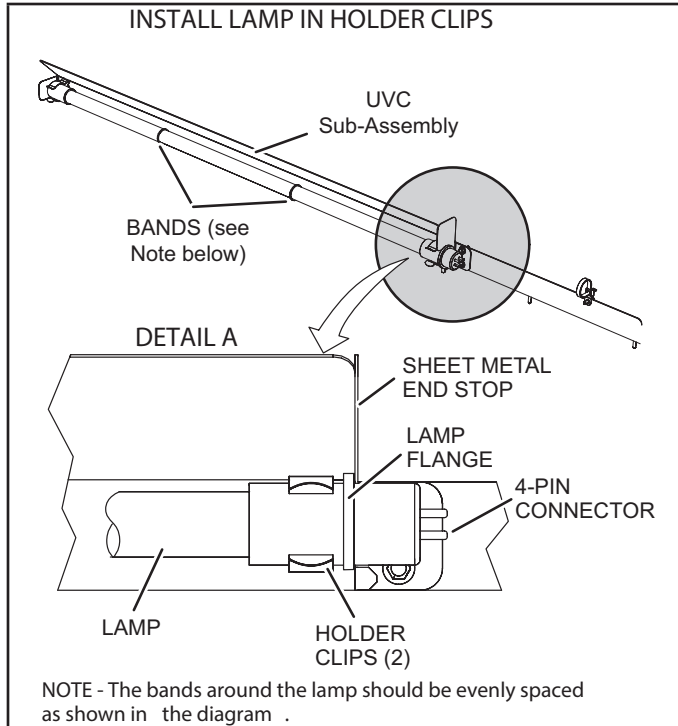

FIGURE 37
When the UVC light is factory installed, the lamp is shipped in a foam sleeve. The lamp is attached to the UVC light assembly on the blower deck. See FIGURE 37. Remove the lamp and install into the UVC light assembly as shown in steps 2 through 11.
- 5 - Remove and retain the (3) screws securing the UVC assembly. Carefully slide the complete UVC assembly out through the blower access door. See FIGURE 37.
- 8 - Carefully place the UVC assembly on the blower deck. Line up the mounting holes on the UVC assembly with the mounting holes on the blower deck See FIGURE 37. Use the retained screws provided to attach the UVC assembly in place.